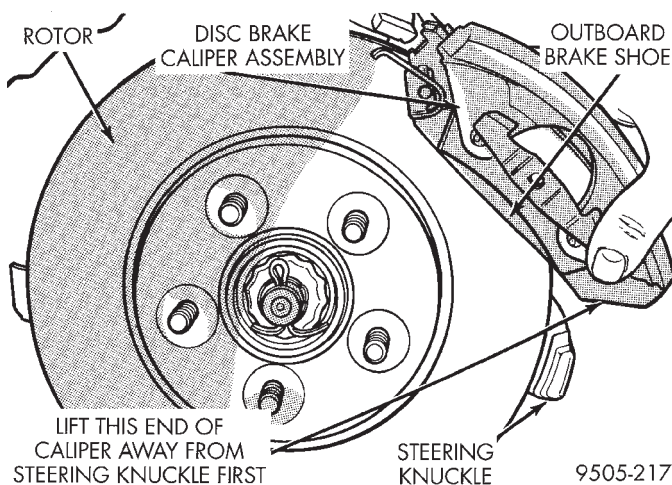

**Fig. 48 Removing Brake Caliper**
(5) Remove brake caliper from steering knuckle, by first rotating bottom of brake caliper away from the steering knuckle. Then slide top of brake shoes down and out from the top machined abutment on steering knuckle (Fig. 48).